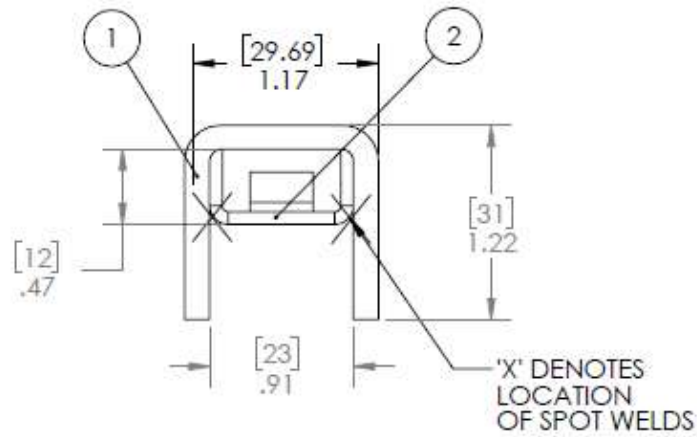

FIGURE 1: TOP AND BOTTOM RAIL ASSEMBLY
3.1.1 3.1.1 The top and bottom rails for vertical assemblies are a two-piece assembly consisting of 1-1/4" high by 1-1/4" wide by 0.160" wall U-shaped bend steel section (outside member) and a 7/16" high by 7/8" wide by 0.075 wall U-shaped bent steel (inside member). Horizontal assemblies consist of only the U member. See Figure 1.